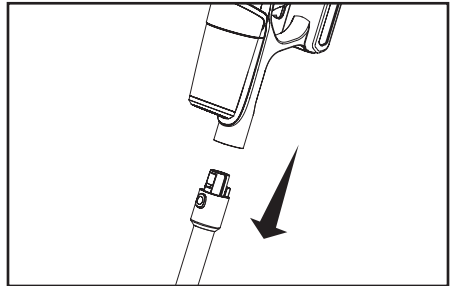

Fig. 2
2. Attach the vacuum main body to the top of the metal wand. It will make a clicking sound when securely locked in place (Fig. 2).